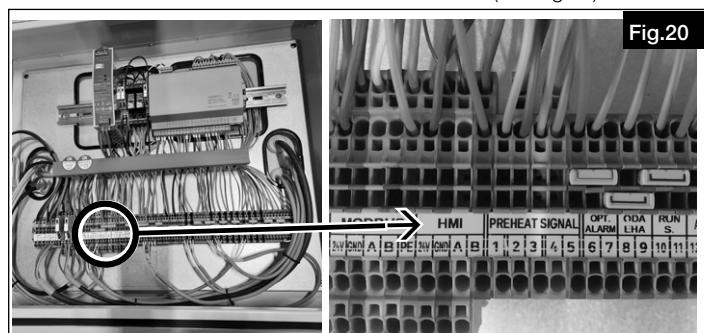

Fig.20
3. Connect the control wire to the marked terminals (see Fig.20) in the terminal box (see wiring diagram).